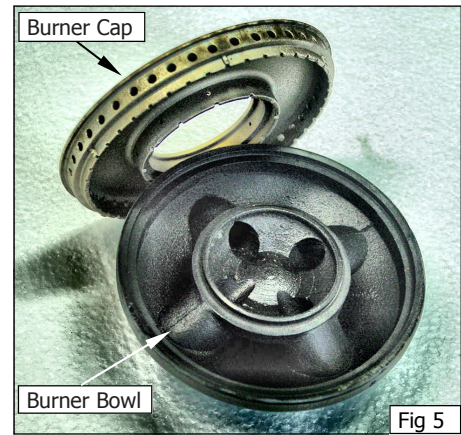
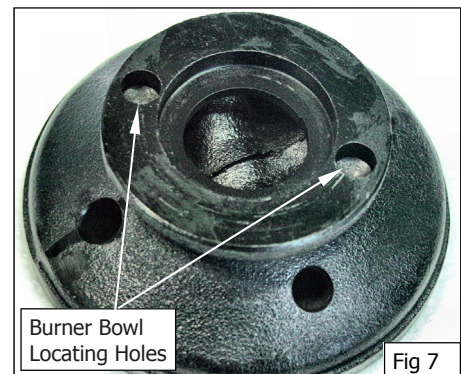
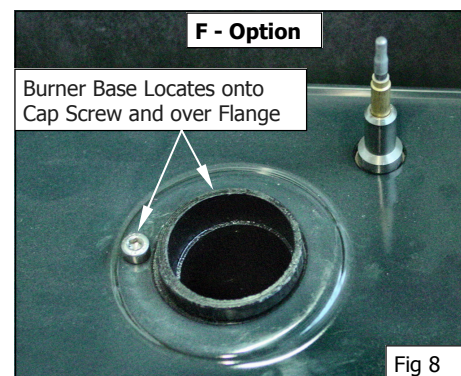
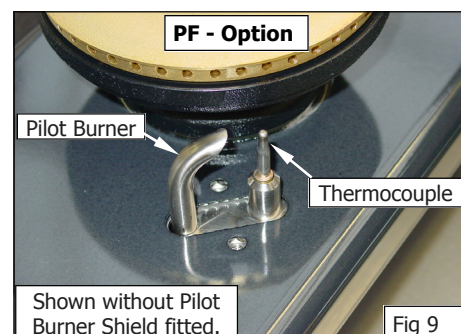

Fig 5
Fig 7
Fig 8
Fig 9
- b. Remove the burner cap and burner bowl (these are a loose fit to the manifold, see Fig 5) from the top of the gas manifold, taking care not to damage the thermocouple (and pilot tube - PF Option) fitted through the manifold splash guard. (Refer to Fig 8 for 'F' Option and Fig 9 for 'PF' Option).
NOTE: The burner bowl (cast item) has 2 locating holes drilled into the base flange (See Fig 7) these are to locate the burner bowl onto the cap screw on the gas manifold when re-fitting the burner bowl onto the gas manifold (Refer to Fig 8 {F-Option} and Fig 9 {PF-Option}).